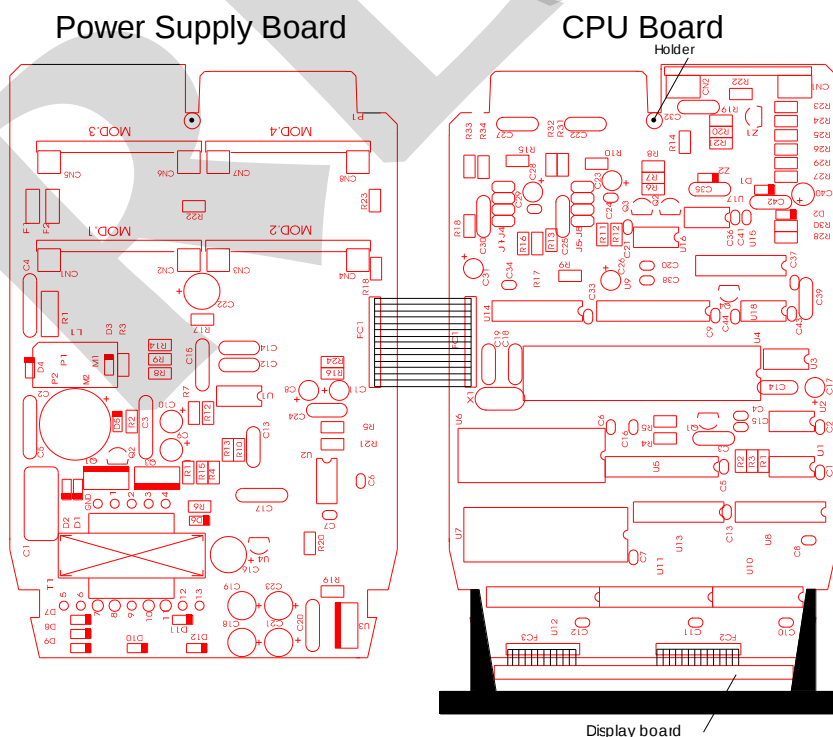

Fig. 30 - Controller Hardware
- iv) Disengage the upper circuit board toward the right and open the circuit boards as shown on figure 30.